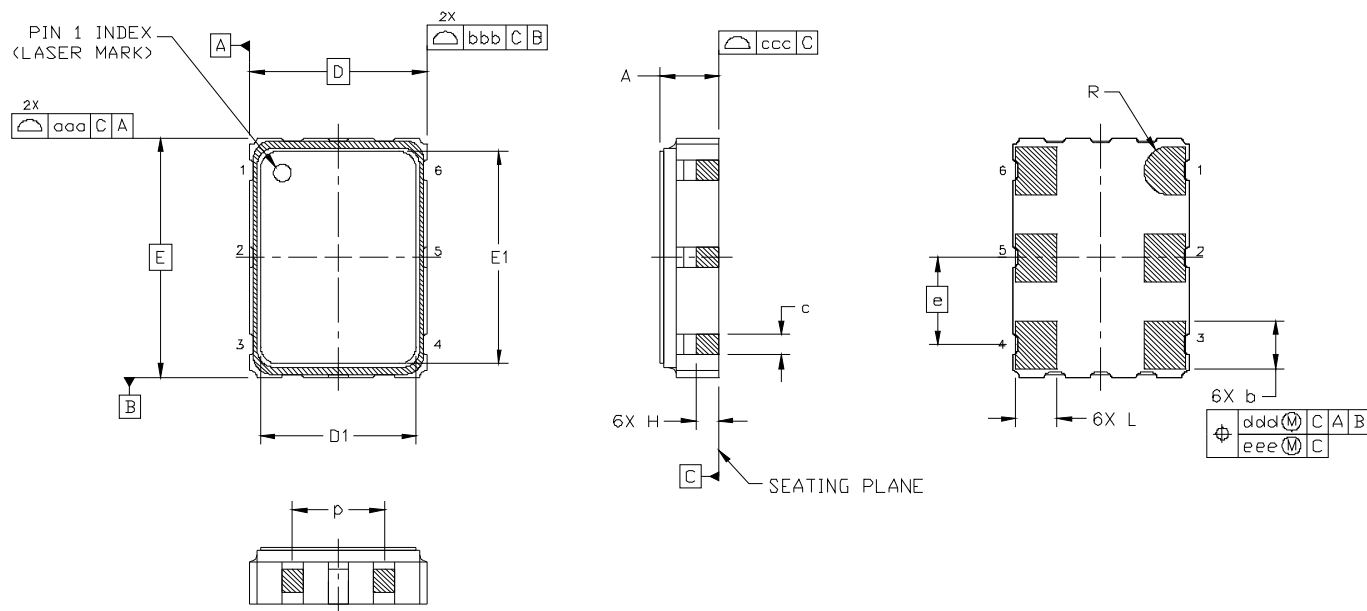

Figure 2. Si533 Outline Diagram
Figure 2 illustrates the package details for the Si533. Table 10 lists the values for the dimensions shown in the illustration.
- Revised Figure 2 on page 8 to reflect current package outline diagram.